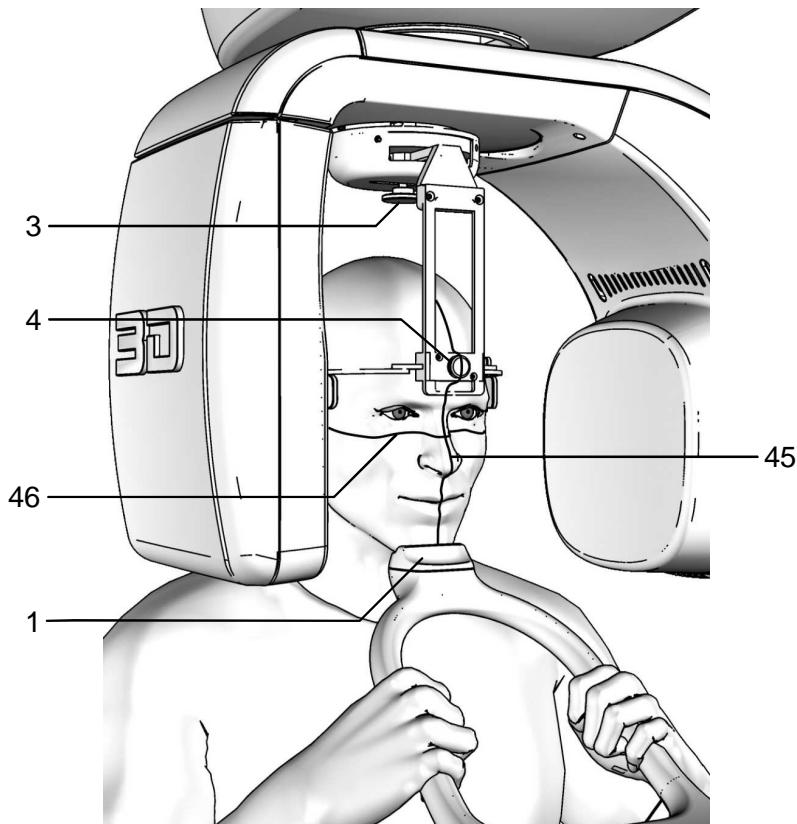

Figure 28 – 3D Sinus positioning
4. Verify that the temple clamp device is in the central position (Figure 14), and if necessary move it using the appropriate control on the top of the support (3 - Figure 28).
5. Place the patient in the temple clamp (Figure 28) by placing the chin on the surface of the relevant support; the hands should rest on the front handgrips; the patient must rest the chin against the reference on the chin support.
9. Place the temple clamp in contact with the patient's head by means of the appropriate knob (4 - Figure 28). In order to help the patient maintain the correct posture, use the head strip on the temple clamp passing it behind the nape of the patient's neck; check that, during this phase, the patient has not changed position.
11. Press the key "Patient Entrance" (6)  to confirm the parameters. The luminous centring devices switch off and the rotating arm goes to its examination start position. Once alignment has been completed, the following message will be displayed: